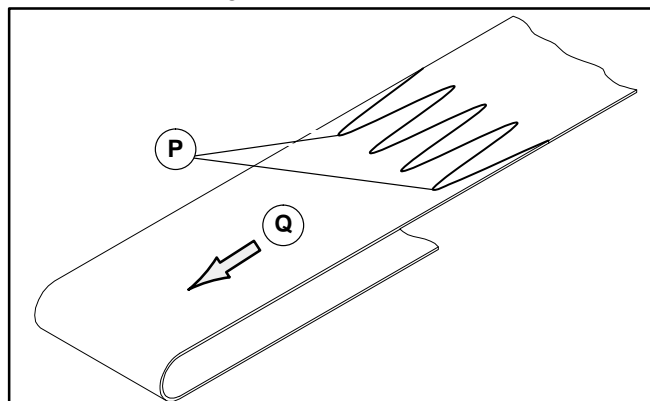

Figure 7
1. Orient the conveyor belt so that the splice leading fingers (P of Figure 7) point in the direction of belt travel (Q of Figures 7 and 8).